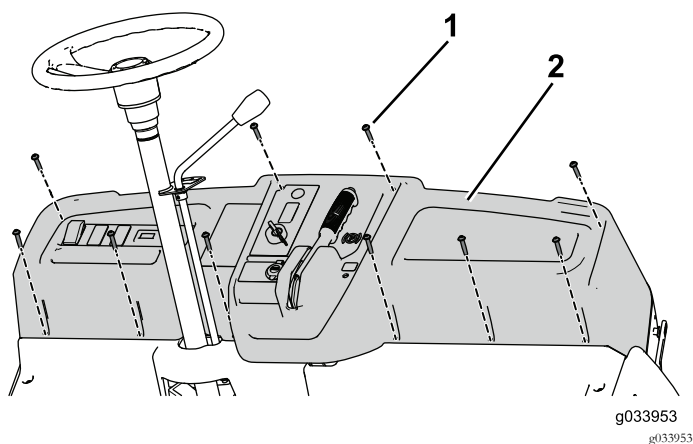

Figure 12
6. Remove and retain the 10 screw (1/4 x 1-1/4 inches) to partially remove the dashboard and disconnect the parking brake, throttle, and shift cables (Figure 12).